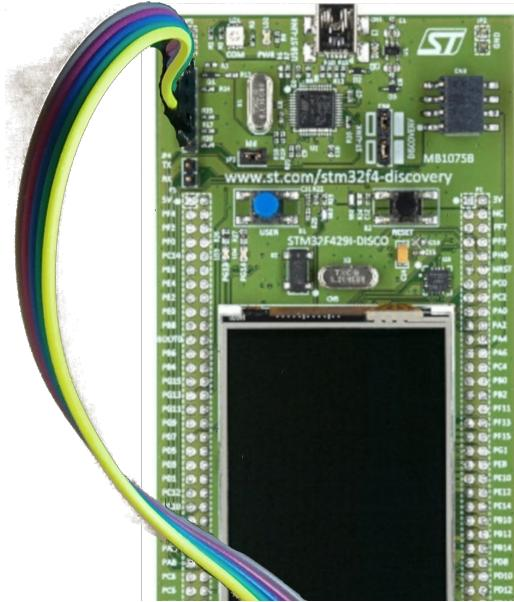

Fig. 4. STM32 Discovery board JTAG/SWD flasher
- (3) **A STM32F429I-Discovery1 board** (see Figure 4) that plays the role of JTAG/SWD flasher in order to program the WooKey device internal flash (for the first time, before the DFU mode is available: in production JTAG/SWD should be obviously deactivated through RDP level 2 readout protection fuses).